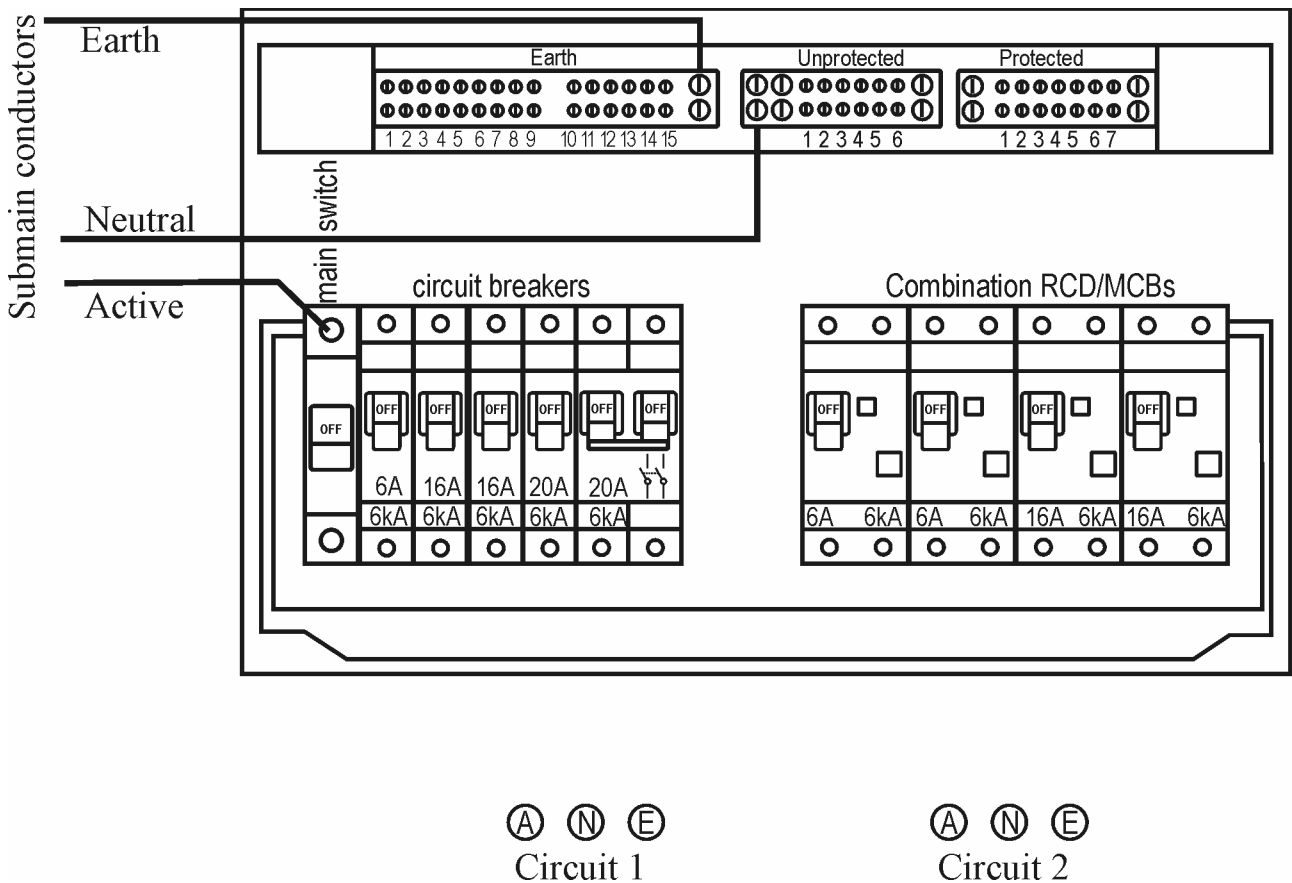

Figure 6
The equipment shown in Figure 6 is for a switchboard in a multiple-domestic installation. Arrangement of the circuits places them partially surrounded by bulk thermal insulation. Two (2) 6A combination RCD/MCBs are required to protect two final sub-circuits supplying lighting points from the switchboard. Show on the diagram the necessary Active, Neutral and Earth connections.